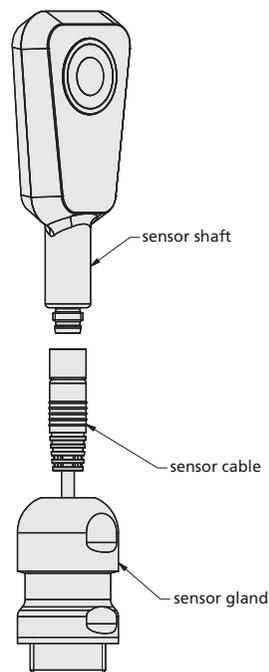

Fig. 5: Mounting of pms sensor with sensor screw connection BF-pms/A1
- The D12 adapter shaft of the pms sensor has to stick out 7 ± 1 mm from the screw connection for hygienic mounting (see Fig. 5 and Fig. 6).